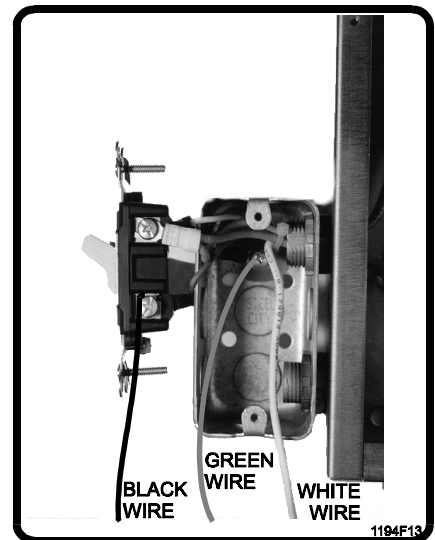

Figure 3. AC Wiring.
3. **GROUND THE SYSTEM.** The system contains parts which may be damaged by static discharge. A proper earth ground connected to the gate operator housing (see Figure 3) will significantly reduce the chances of damage or improper operation. The shielding in the cables specified for all remote sensors and controls should also be connected to earth ground at the controller end of the cable only.
Run power cables through the conduit to Gate Operator, then connect wires to the switch box as shown in Figure 3: